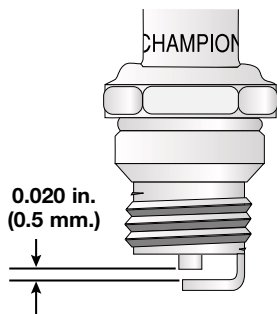

Fig. 26
3. Replace cracked, fouled or dirty spark plug. Set the air gap at **0.020 in. (0.5 mm.)** using a feeler gauge (Fig. 26).